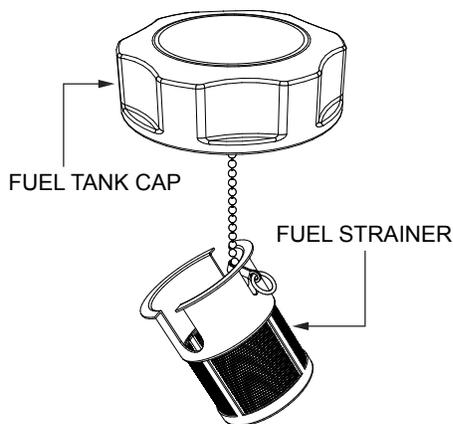

Figure 26. Fuel Strainer
3. Remove, inspect and clean the fuel strainer (Figure 26) with solvent.